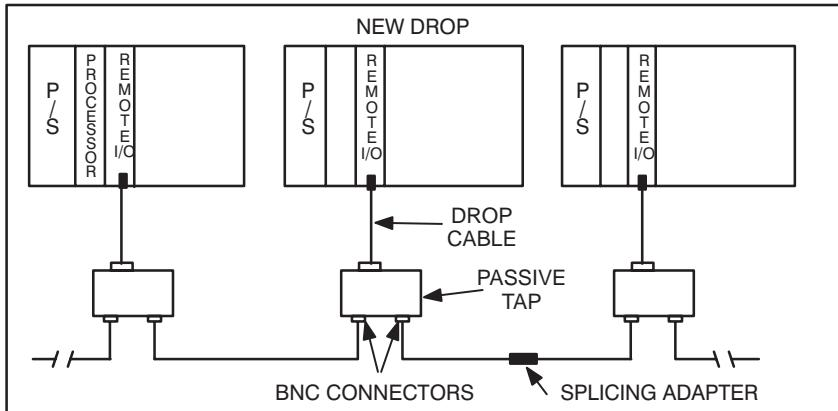

Figure 3.27 - Adding an Intermediate Rack Drop to the Remote I/O Network (Coax)
- For rack drops, connect the other ends of the new cable segments with a tap attached to the new drop as shown in figure 3.27. For Head drops, connect the ends of the new cable segments to a BNC Tee Adapter. Connect the Tee Adapter directly to the Remote I/O Head or Remote Drive Interface Head.